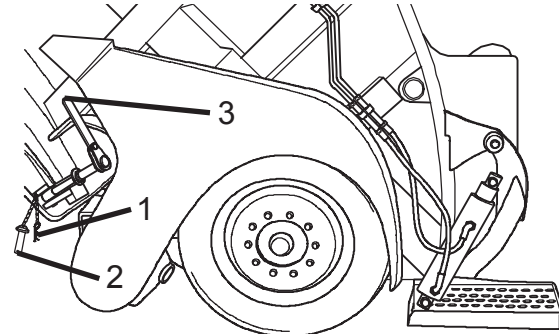

Figure 54
10. Swing the turnbuckle (Figure 54, Item 3) into the slot and tighten. Repeat the procedure for the other side.
11. Install the safety pin (Figure 54, Item 2) on both sides of the tailgate. Install the hair pin clip in the safety pin (Figure 54, Item 1).